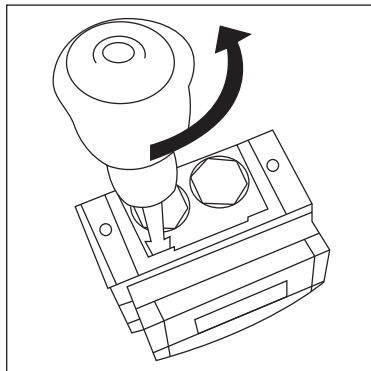

Fig 3 Cover removal
- To remove the cover, undo and remove the four cover fixing screws. The four retaining clips also need to be released. To do this place a flat bladed screwdriver into the slot between the cover and backbox and gently twist until the clip disengages (Fig 3). Repeat this for the three remaining clips and pull the cover away from the backbox.